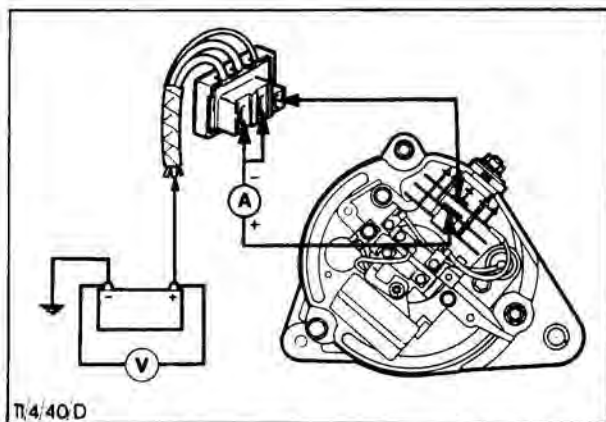

Fig. 37. Checking regulator control voltage
16. Connect control voltage test circuit, Fig. 37.